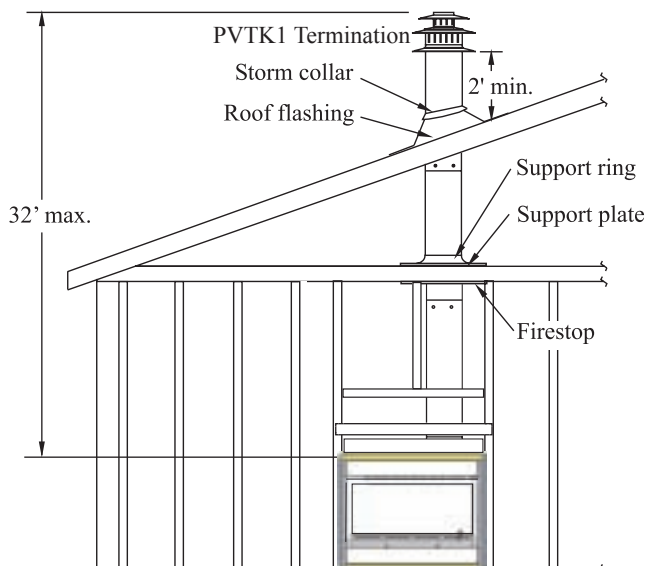

Figure 11. *Top vent, Roof mounted* termination with no offset in vent run.
- The Vertical termination must be a minimum 2' higher than where the termination exits the roofing materials, (asphalt shingles, cedar shakes, etc). This distance should be measured from the high side of the roof slope where the flue flashing intersects the roofing materials. (see **Figures 11 to 11c ***).